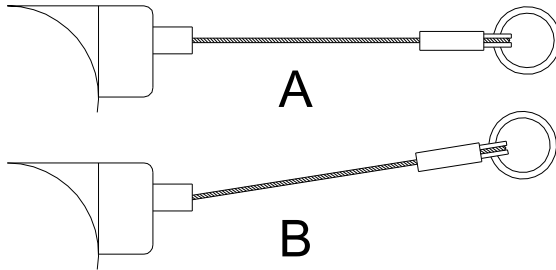

Figure 20: Stroke-Velocity Encoder mounting cable caution
**Take special care when installing the stroke sensor so the cable enters the nylon cable bushing straight to eliminate wear on the cable. (Reference Figure 20)**